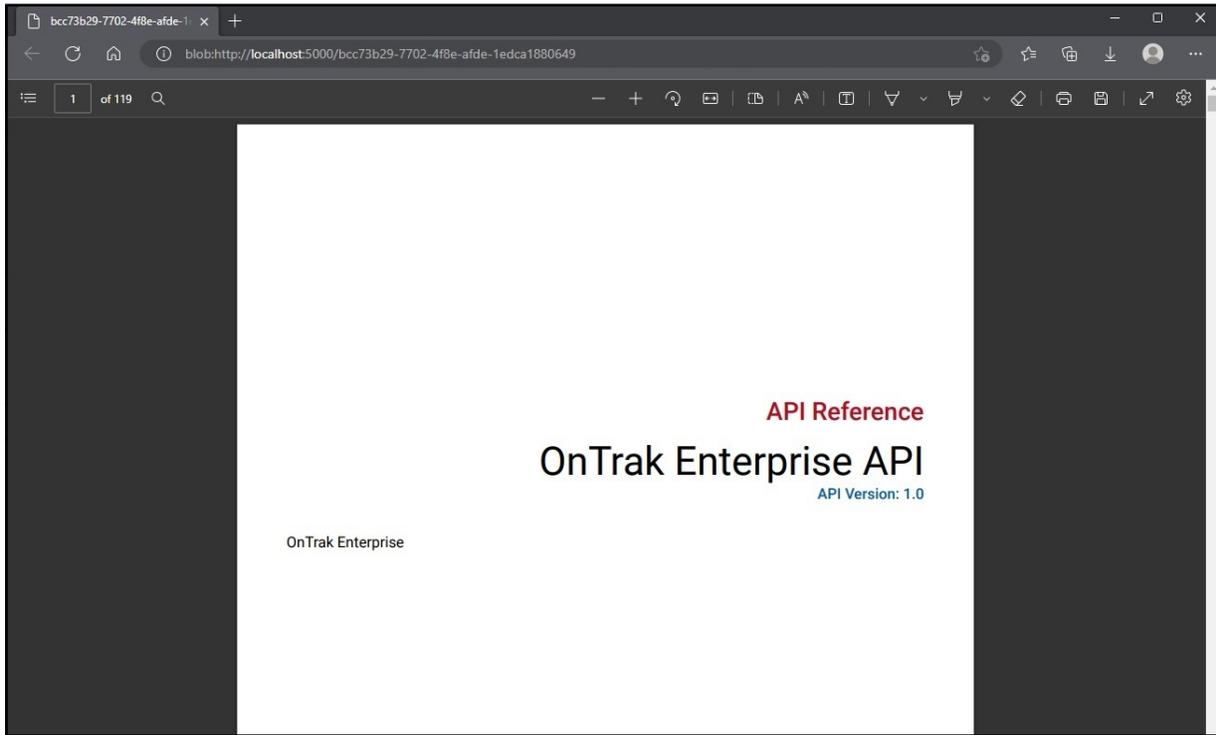

Figure 13-5. API Document Opened In Internet Browser
5. Review the API documentation (see Figure 13-5 on page 166).